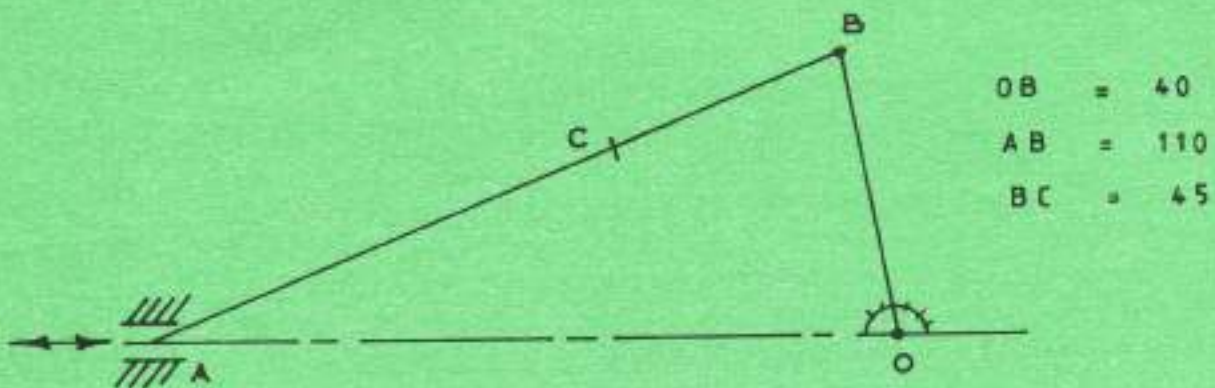

Fig. 2
- (c) Figure 2 shows the layout of a crank mechanism, in which crank OB rotates about O and A slides as shown. Draw the locus of point C for one revolution of crank OB. (10 marks)